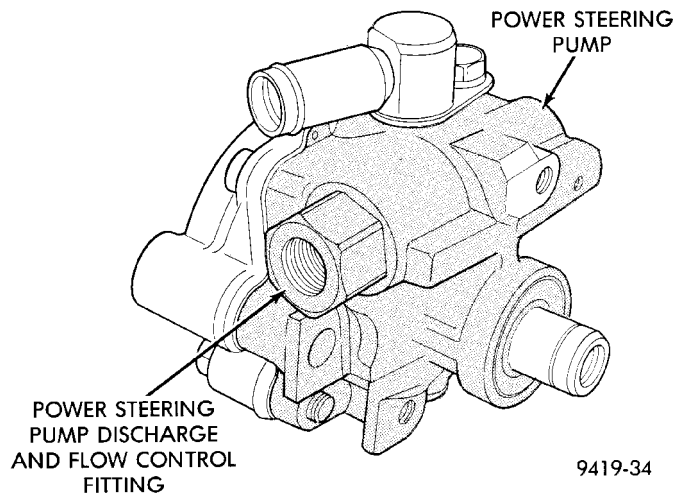

Fig. 5 Pump Discharge And Flow Control Valve Fitting
- (2) Remove the flow control valve fitting from the power steering pump housing (Fig. 5). **Prevent flow control valve and spring from sliding out of housing bore.**
- (3) Remove and discard O-ring seal from fitting.